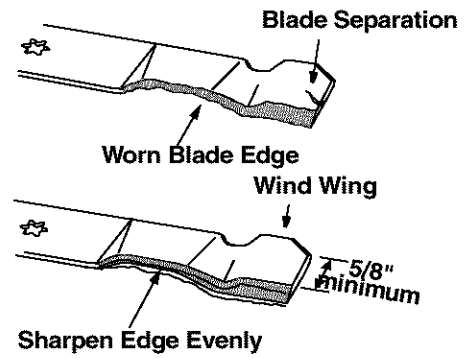

Figure 21
- To properly sharpen the cutting blades, remove equal amounts of metal from both ends of the blades along the cutting edges, parallel to the trailing edge, at a 25° to 30° angle. See Figure 21.
IMPORTANT: If the cutting edge of the blade has already been sharpened to within 5/8" of the wind wing radius, or if any metal separation is present, replace the blades. See Figure 21.